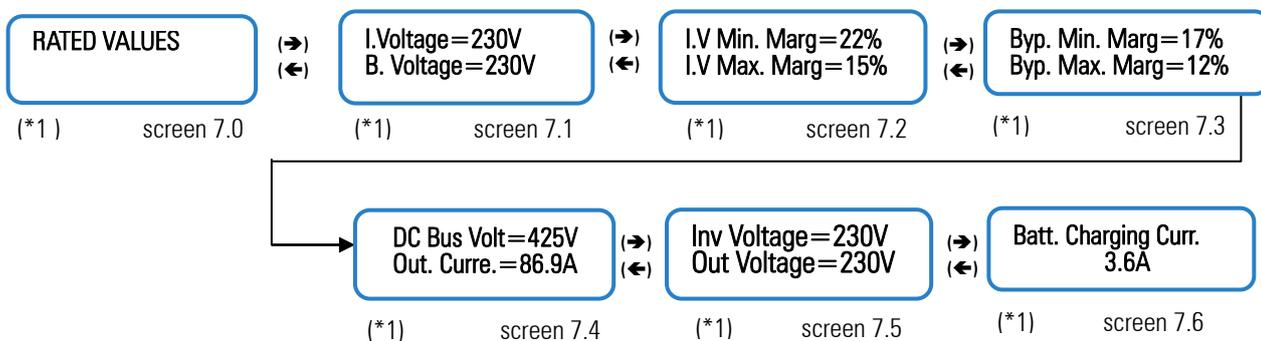

Fig.37. Screen 7.0 «Rated values» and its submenus.
6.3.8. Rated values screens (screen menu 7.0). See Fig. 37.